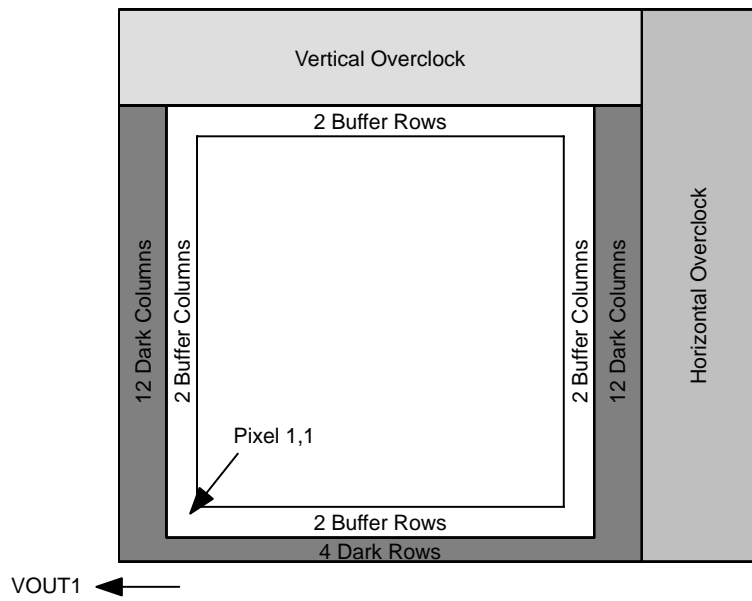

Figure 16. Regions of Interest
defects are not included in the defect map. All defective pixels are referenced to pixel 1, 1 in the defect map (see Figure 16: Regions of Interest).
1. Only the active pixels are used for performance and defect tests. See Figure 16.
vertical and horizontal directions. See Figure 16 for a pictorial representation of the regions.